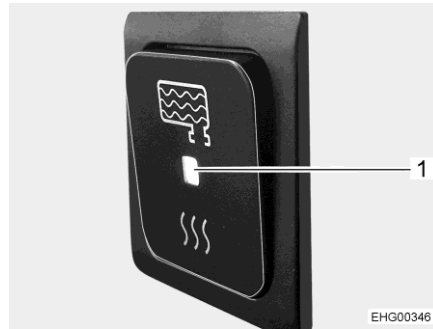

Fig. 68 On/Off switch, switched on
If the On/Off switch of the control has been switched on (Fig. 68), the waste water tank heater switches on automatically as soon as the external temperature drops below 0 °C. This protects the waste water tank from frost.
- Press lower part of the On/Off switch. The LED indicator (Fig. 68,1) is lit.
- Press upper part of the On/Off switch. The LED indicator (Fig. 68,1) goes out.